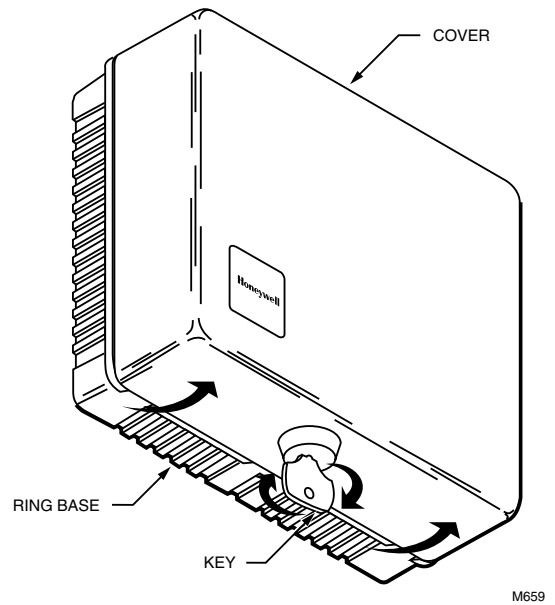

Fig. 13. Remove thermostat guard cover (TG510, TG511, TG512 shown).
- ❶ Remove the thermostat guard cover by inserting the key and turning the key clockwise until the locking mechanism is disengaged.
- ❷ Remove the guard cover by swinging it out away from the ring base and lifting it off. See Fig. 13.